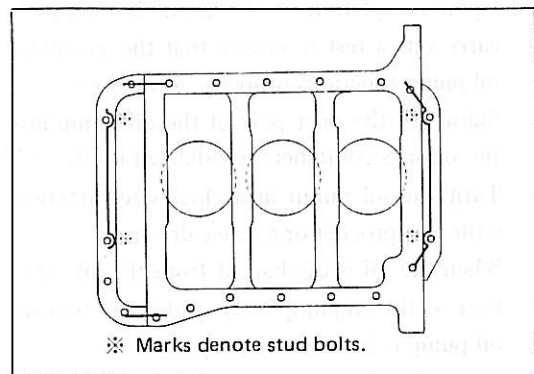

Fig. 6-25 Sealer Applying Procedure (Cylinder Block Side)
- (1) Apply the sealer to the cylinder block, as shown in Fig. 6-25.